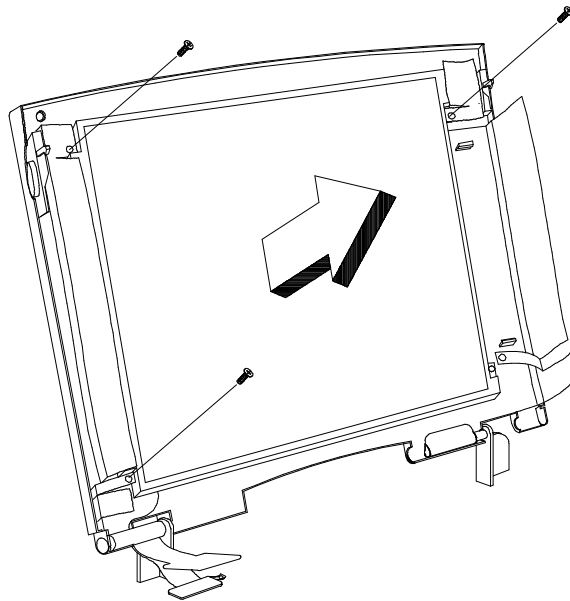

Figure 6-23 Removing/Replacing the LCD Assembly
3. Remove three screws securing the LCD Assembly and pull up on the LCD Panel (Figure 6-23).
4. Tilt the LCD Panel away from the display cover; unplug the LCD Panel from the Display Cable Assembly (Figure 6-23) and remove the LCD Assembly.